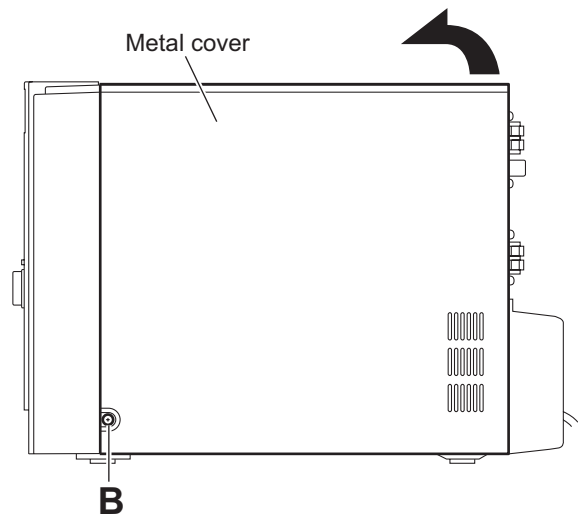

Fig.2
- (2) From the both sides of the main body, remove the two screws **B** attaching the metal cover. (See Figs.2 and 3.)
- (3) Remove the metal cover in the direction of the arrow while extending the lower sections of the metal cover. (See Figs.2 and 3.)